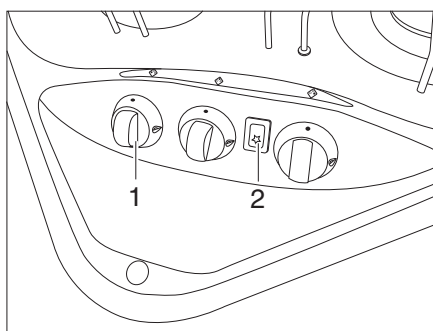
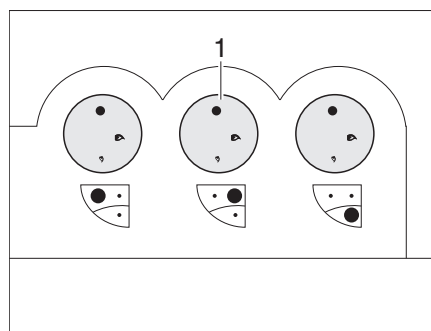

Fig. 137 Operating controls for gas cooker
Fig. 138 Alternative: Operating controls for gas cooker
- Turn the control knob (Bild 137,1 or Bild 138,1) on the burner you wish to use to the ignition position (large flame).
- If an ignition button (Bild 137,2) is present: